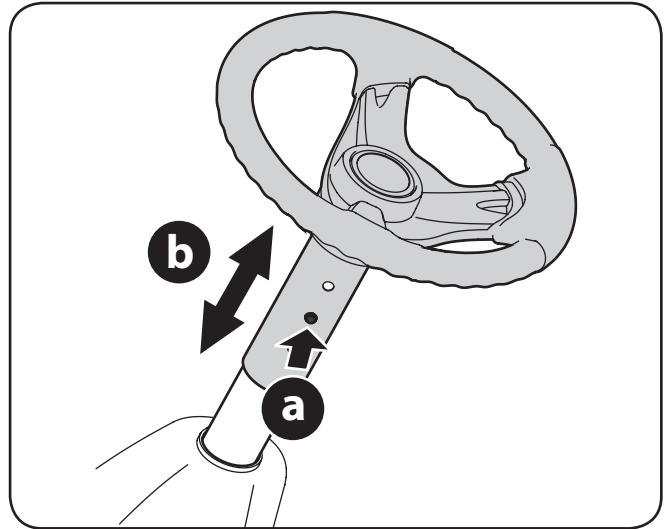

Figure 5-1
2. Push the button (a) on the steering column and raise or lower the steering wheel (b) to the desired position. See Figure 5-1.
2. Turn the key from the NORMAL MOWING (Green) position to the REVERSE CAUTION MODE (Yellow) position of the key switch module. See Figure 5-1.
3. Depress the REVERSE PUSH BUTTON (Orange, Triangular Button) at the top, right corner of the key switch module. The red indicator light at the top, left corner of the key switch module will be ON while activated. See Figure 5-1.